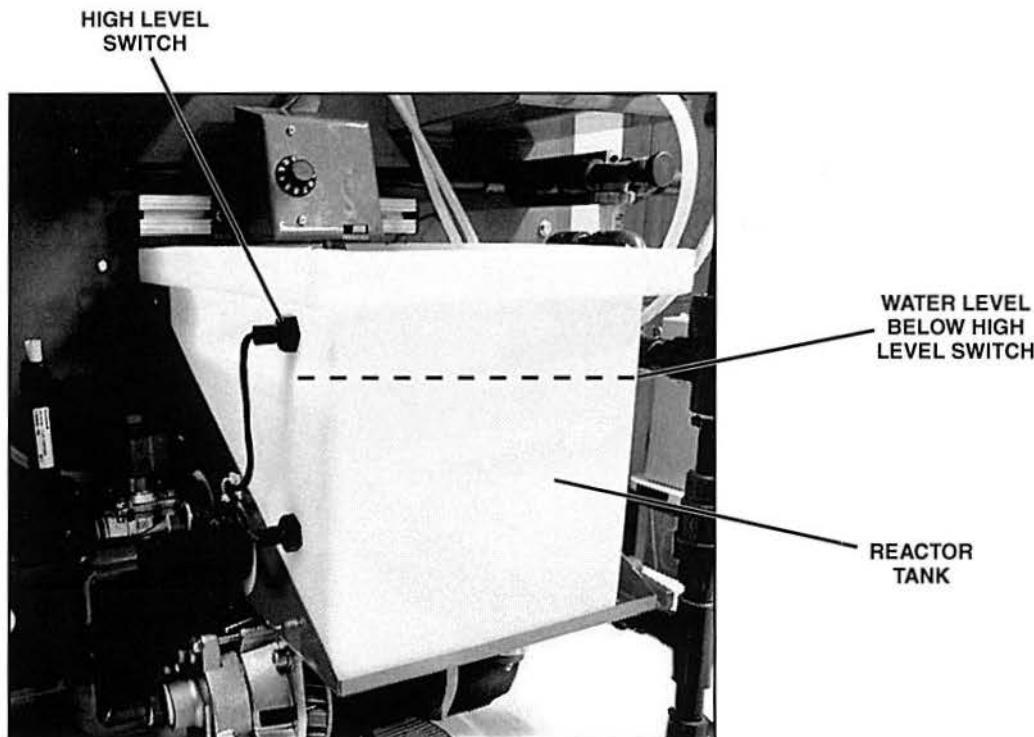

Figure 35. Water Level Just Below the High Level Switch
- H. Fill the reactor tank with fresh tap water until the level is just below the high level switch, as shown in figure 35.